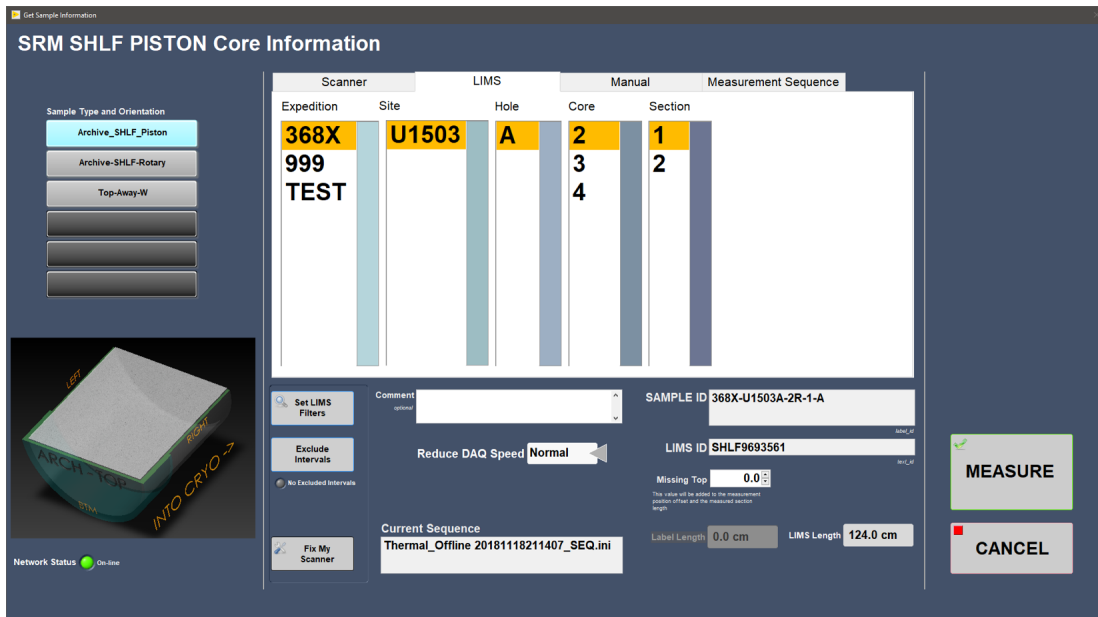

Figure 22- Sample Information Window: Section Half
- **LIMS** mode: Select a section using the hierarchy columns (Figure 22). Only the sections/cores that match your preset will display (e.g., if you select an archive half section preset, only archive half sections will be displayed).